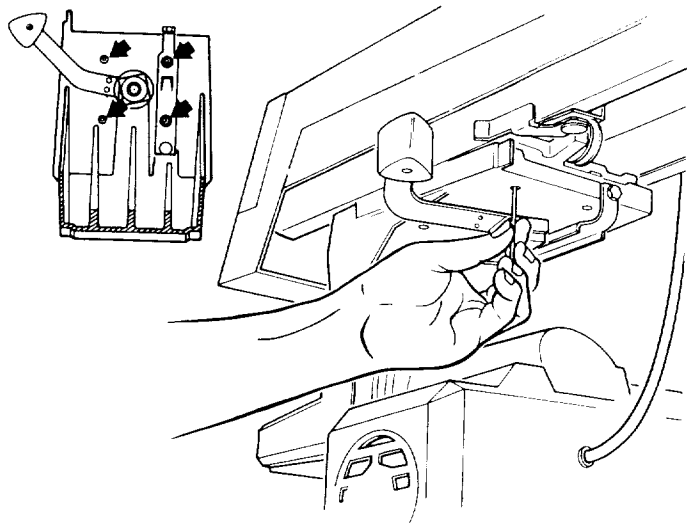

Fig. 112
7. Loosen the four screws under the *yoke* using a 3/16 inch hex-L wrench and pliers if necessary. (Figure 112)